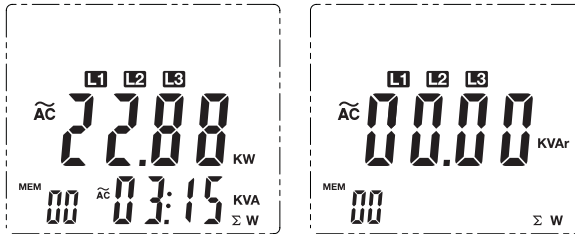

Figure 9
12. After recording the kW power measurement value for the third phase, press and Hold the  $\Sigma$  **button** for 1 second to display the 3 phase sum of **kW** on the main display and **kVA** on the secondary display. (figure 9)
9. After recording the kW power measurement value for the L3 phase, press and Hold the  $\Sigma$  **button** for 1 second to display the 3 phase sum of **kW** on the main display and **kVA** on the secondary display. (figure 9)
For Figure 9: for 3-wire  $\Sigma W = W1 + W3$